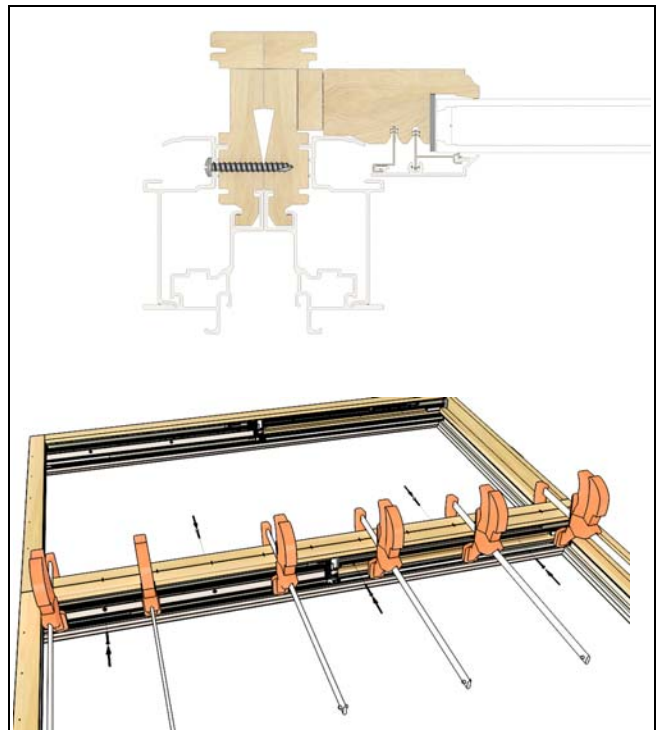

Figure 6
7. If mulling a picture unit with sash not installed, drive screws in through the exterior cover, alternating jambs. See Figure 6.